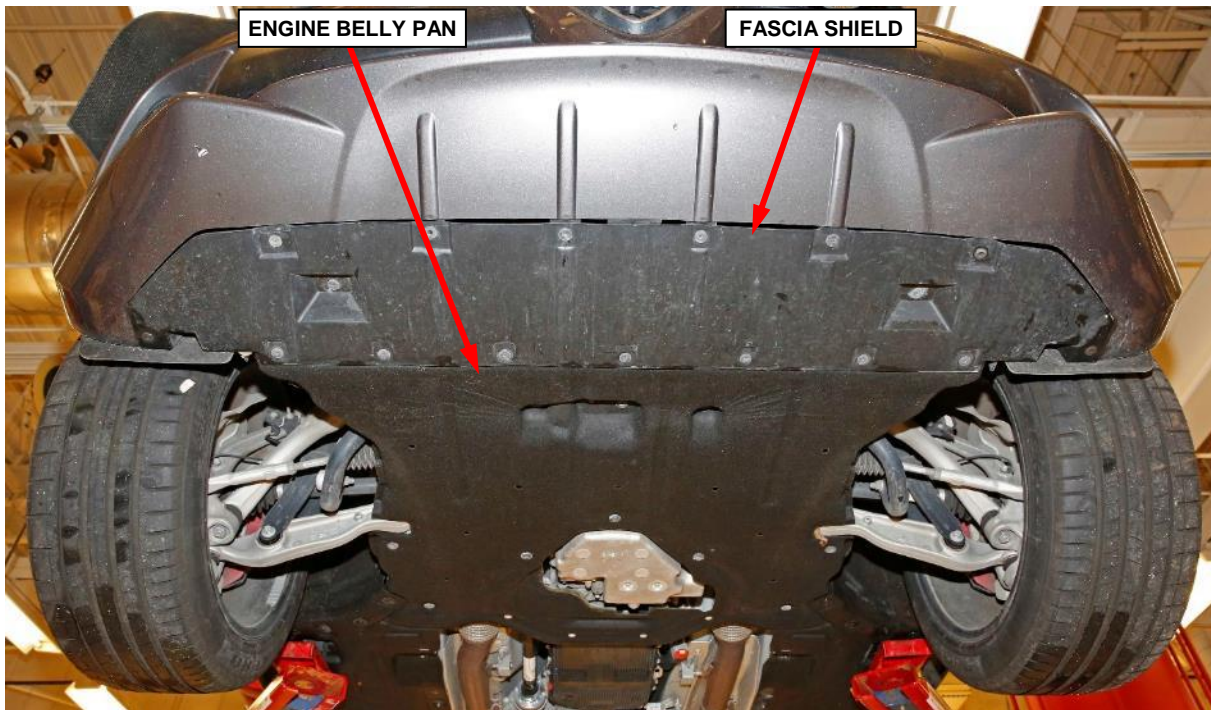

Figure 3 – Engine Belly Pan and Fascia Shield
18. Remove the engine belly pan fasteners. Then remove the engine belly pan (Figure 3).
19. Remove the fascia shield fasteners. Then remove the fascia shield (Figure 3).